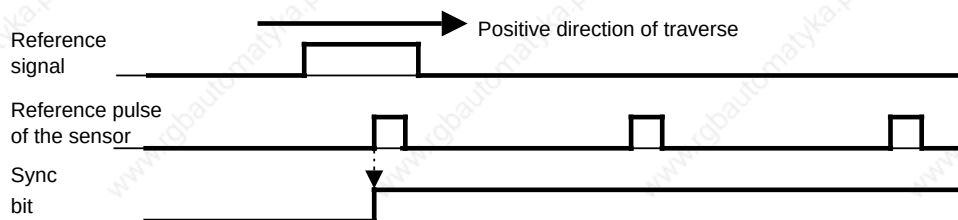

**Figure 16-18. Position of the Reference Point (SYNC Bit=1) within the Reference Signal Range**
- The first reference pulse that the module recognizes after a leading edge of the reference signal synchronizes the module (see figures 16.18 and 16.20a).
The figures 16.18, 16.19 and 16.20a illustrate different possibilities for a reference traversing path. Figure 16.20b illustrates a reference traversing path, which is terminated without synchronization: